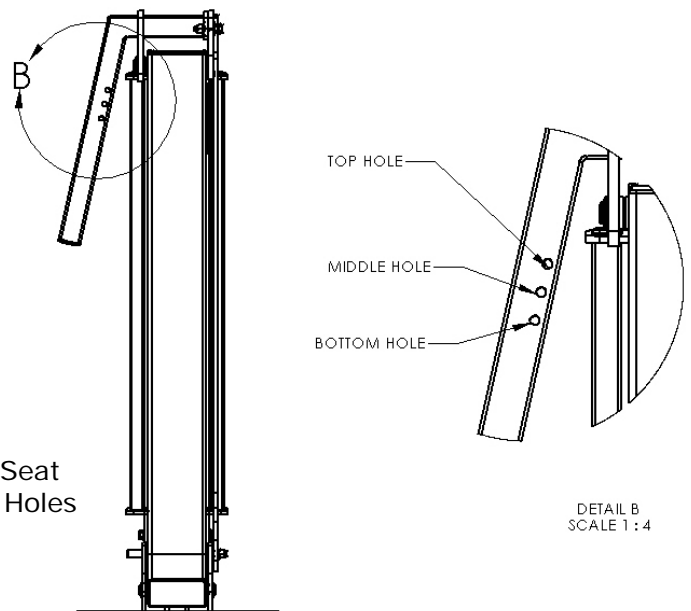

Figure 6. Seat Mounting Holes
12. Attach seat assembly with bolt and thumbnut in appropriate hole. Refer to **Figure 10** and **Table 1** to determine the correct seat mounting hole to use. Also see **Figure 6**.